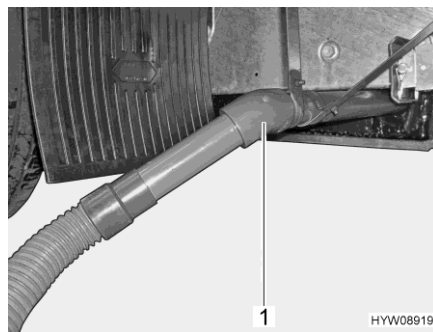

Fig. 107 Drain pipe with waste water hose
- Attach the waste water hose to the drain pipe (Fig. 107,1).